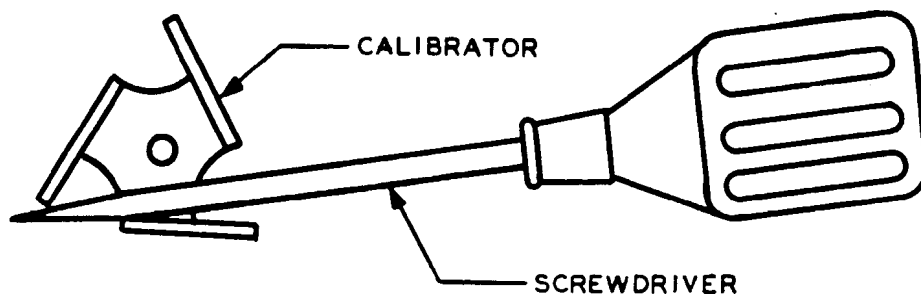

Figure 5
7. If the weight indication is over the applied load turn the calibrators within the spring so the calibrators move toward the top of the scale. Use a screw driver as shown in Figure 5.